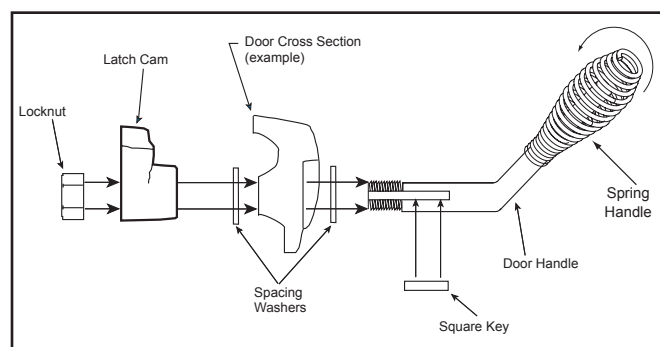

Figure 22.3 - Door Handle for Arched Door
3. Install second washer(s) as shown in **Figure 22.3.**
7. Install handle turning in a counter-clockwise motion to desired location on door handle rod. **Figure 22.3.**